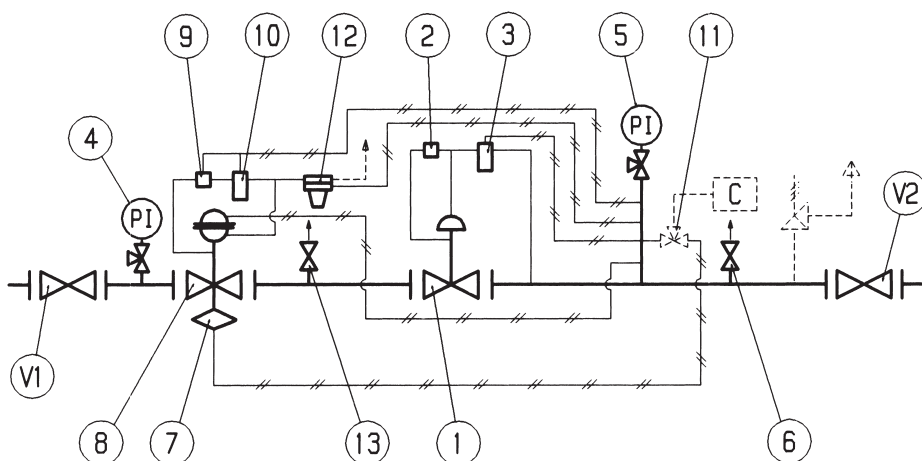

Fig. 28
5.6 COMMISSIONING THE REGULATOR WITH REFLUX 819 IN-LINE MONITOR WITH INCORPORATED SB/82 SLAM-SHUT AND ACCELERATING VALVE (FIG. 28)